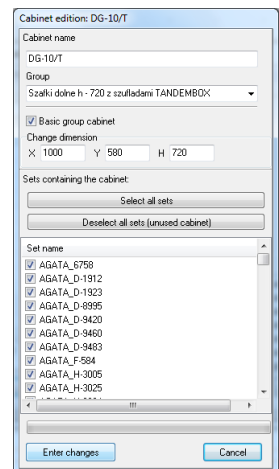

Fig. 161 – edition of a single cabinet
- assigning the cabinet to selected sets (Fig. 161).